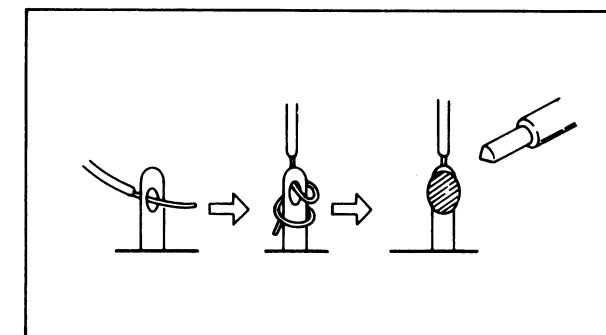

Fig. 1
5. When replacing AC primary side components (transformers, power cords, noise blocking capacitors, etc.) wrap ends of wires securely about the terminals before soldering.(Fig. 1)